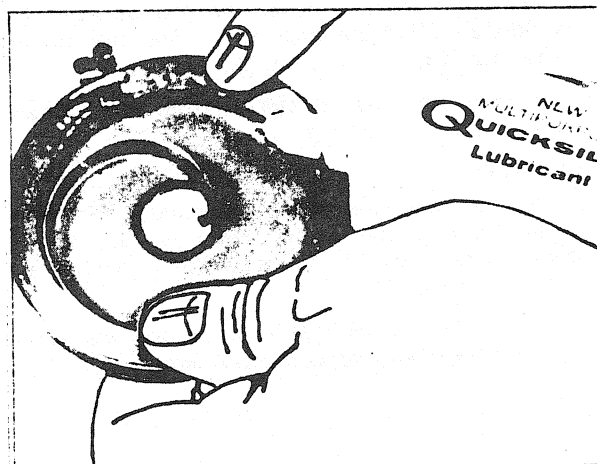

FIGURE 5
- Apply "quicksilver" lubricant on the rewind spring and spread evenly with your fingers. (Fig. 5).